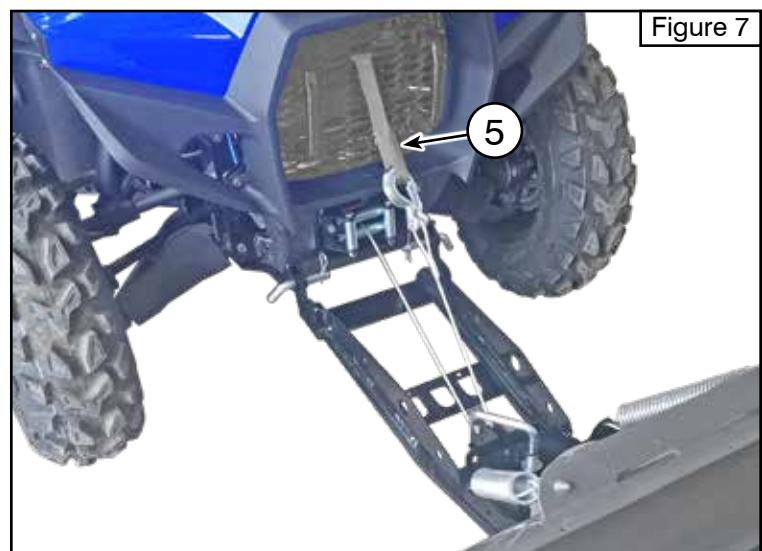

Figure 7
10. Attach the soft loop strap (5) to the horizontal frame tubing behind the front grille. Route the strap through one of the grille openings, then route the winch cable through the pulley and attach the hook to the strap. Refer to **Figures 7 and 8**.